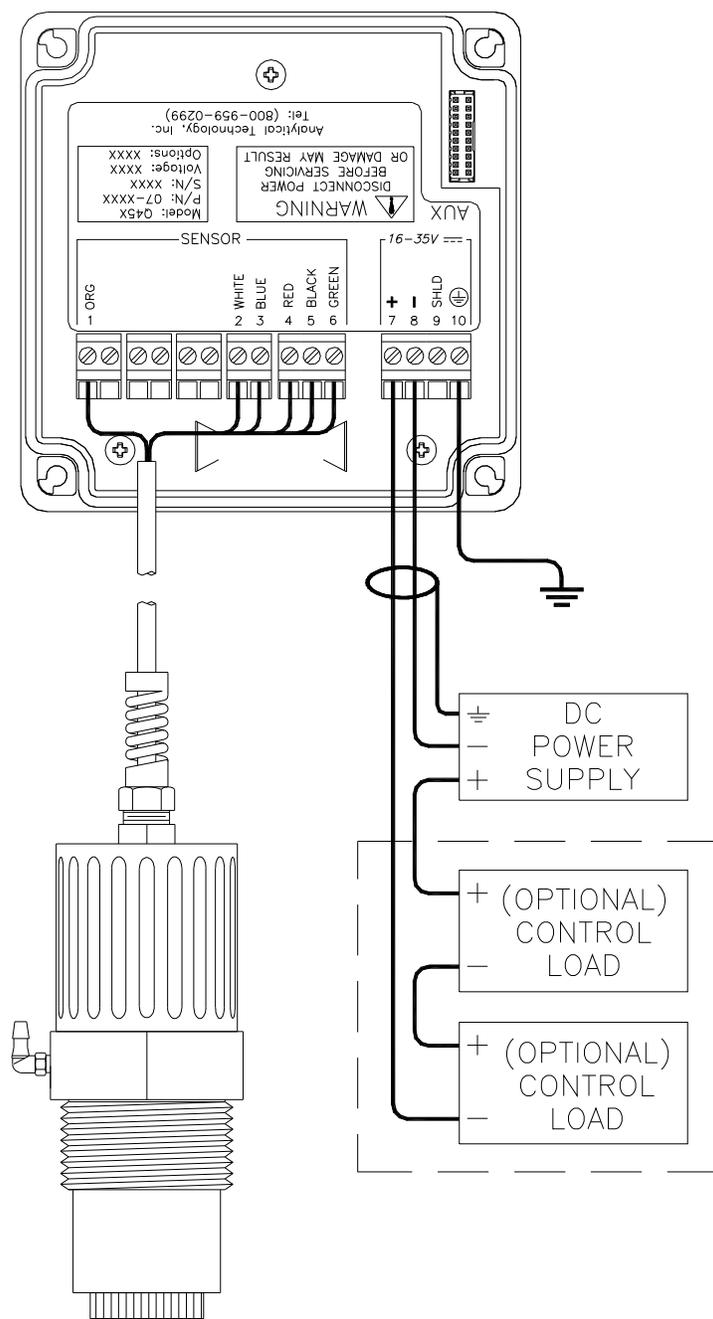

Figure 8 - Loop-Power Connection, Q45 Transmitter
1. Use wiring practices that conform to all national, state and local electrical codes. For proper safety as well as stable measuring performance, it is important that the earth ground connection be made to a solid ground point from terminal 12 (Figure 8).
In the two-wire configuration, a separate DC power supply must be used to power the instrument. The exact connection of this power supply is dependent on the control system into which the instrument will connect. See Figure 8 for further details. Any twisted pair shielded cable can be used for connection of the instrument to the power supply. Route signal cable away from AC power lines, adjustable frequency drives, motors, or other noisy electrical signal lines. Do not run sensor or signal cables in conduit that contains AC power lines or motor leads.
Sensor connections are made in accordance with Figure 8. The sensor cable can be routed into the enclosure through one of cord-grips supplied with the unit. Routing sensor wiring through conduit is only recommended if a junction box is to be used. Some loose cable is needed near the installation point so that the sensor can be inserted and removed easily from the flowcell.